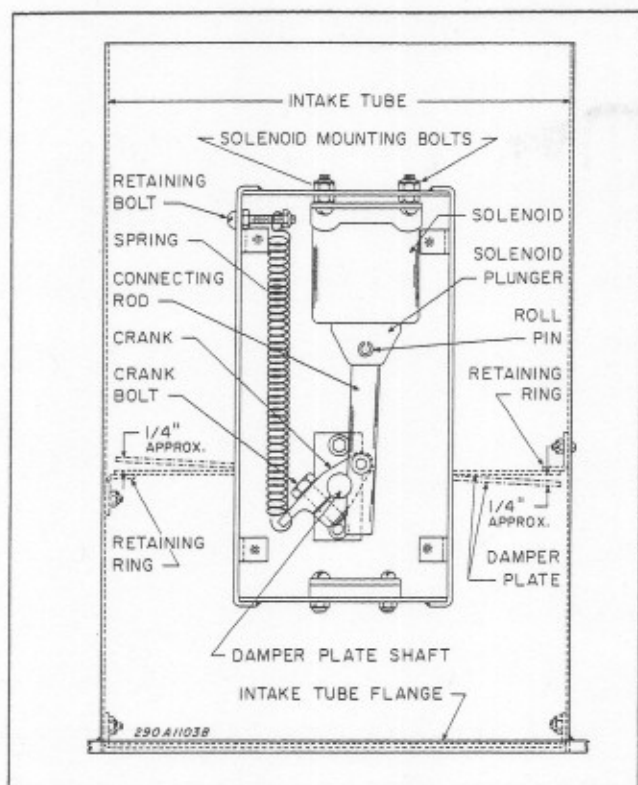

Figure 5-3. Upper Solenoid Replacement.
1. Upper Solenoid (See figure 5-3).